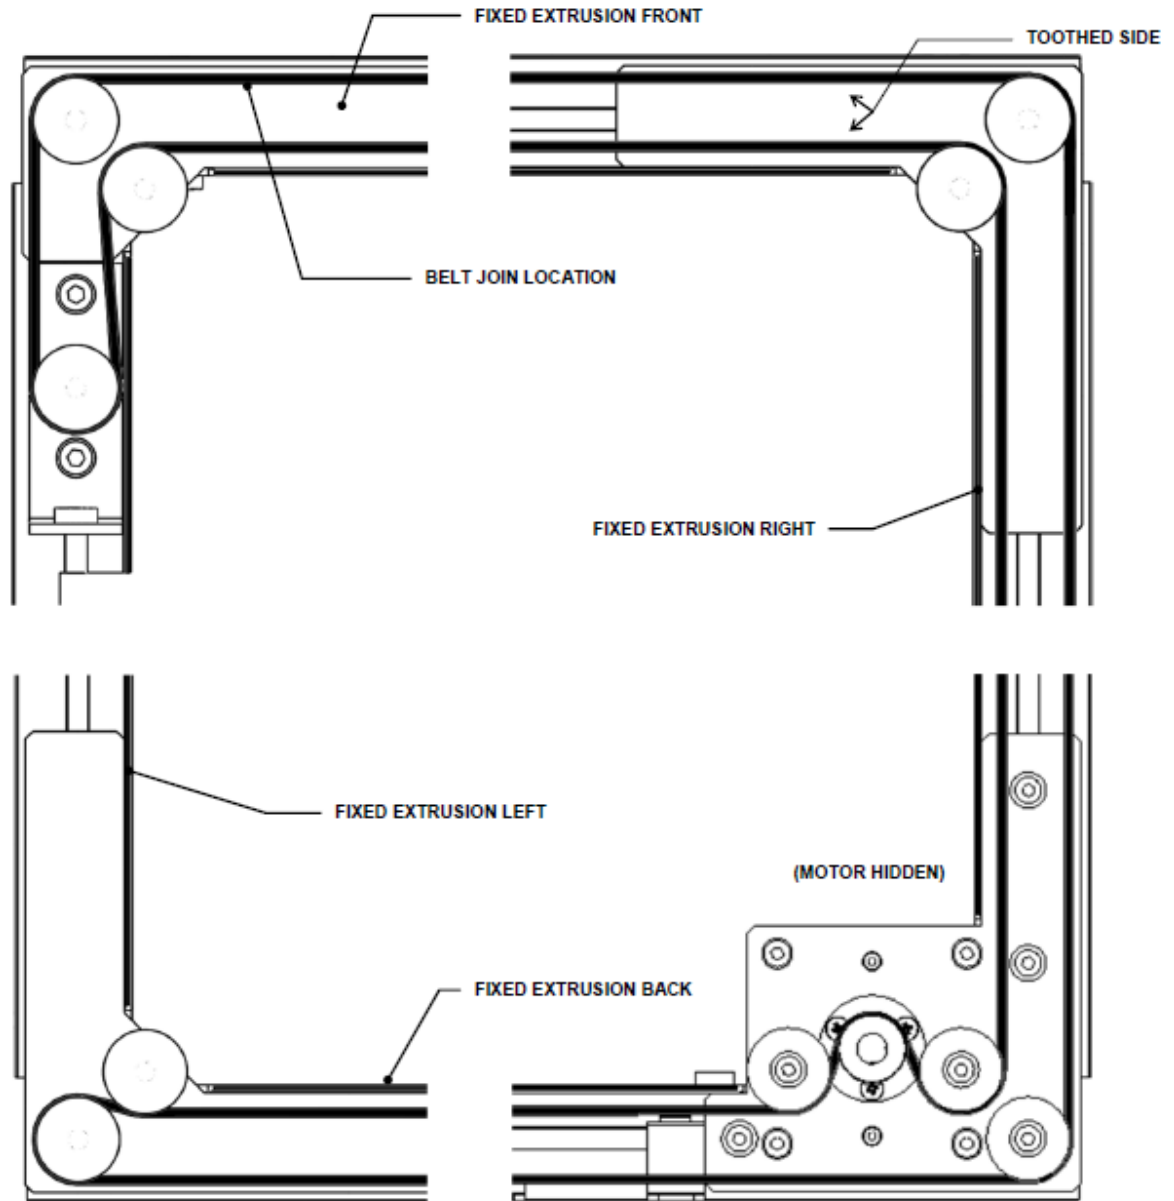
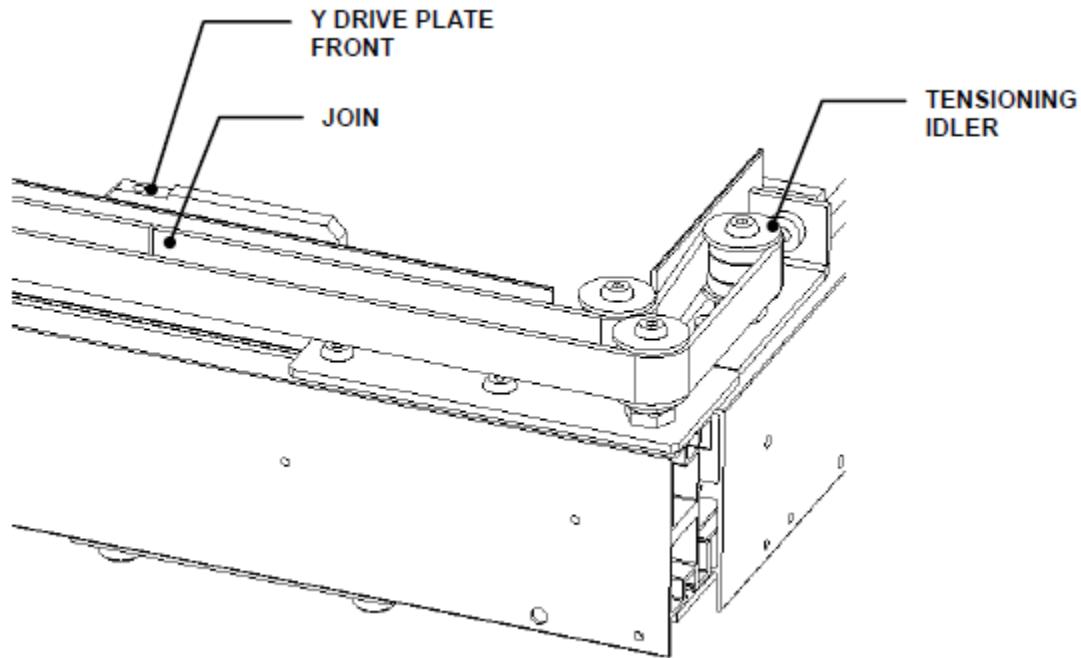

Figure X-12: Y Drive Transport Arm Belt Routing
Figure X-15: Location of Belt Join
The routing for the belt for the X drive for the transport arm is shown in Figure X-12.
3. Place the new belt in position around the idler assemblies as shown in Figure X-12. Ensure that the join in the belt and the X drive Plate Front are in the approximate position shown in Figure X-15.